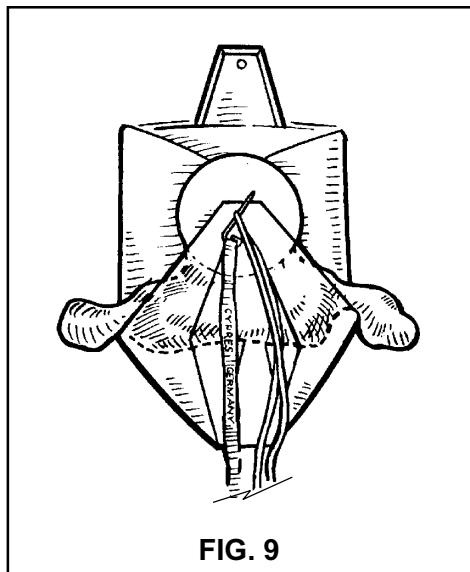

FIG. 9
9. Kneel on both ears at bottom of canopy ("S" folded portion) and fold both ears underneath themselves, so that the top of the ear is flush with the top of the canopy (FIG 9).
12. Fan out the pilot chute fabric, so that it extends wider than the bottom flap. Be sure to keep the point of the fan narrow and tight to the middle of the bottom of the pilot chute top plate. Close the bottom flap and secure it with the temporary pin. (FIG. 9).